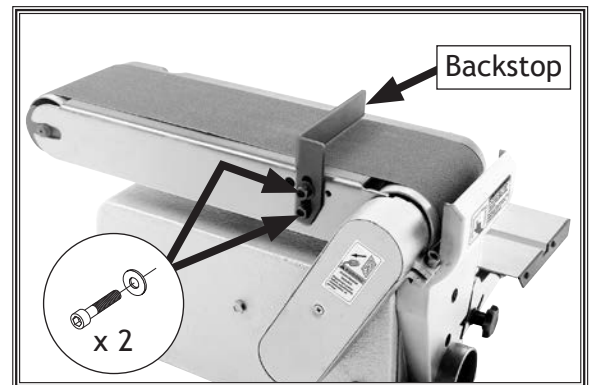

Figure 10. Backstop mounting location.
7. Insert (2) M8-1.25 x 16 cap screws with (2) 8mm flat washers through slot in backstop and thread into mounting holes in sander body (see **Figure 10**).